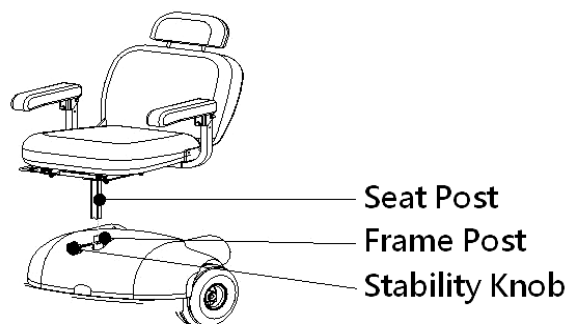

FIGURE 7.4
7.7.1.3 Remove the driver's seat. (See Figures 7.4 or 7.5)
7.9.2 Pull up on the swivel lever and seat until it detaches from the frame post. (see Figure 7.4)